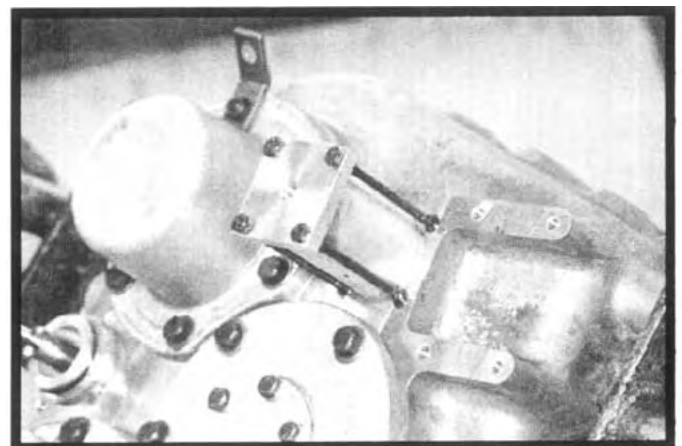

Figure 6.57
45. Install a new O-ring on the shift cylinder cap and insert into the cylinder. Secure the assembly with the (4) cap screws and torque to specification. See Figure 6.57.